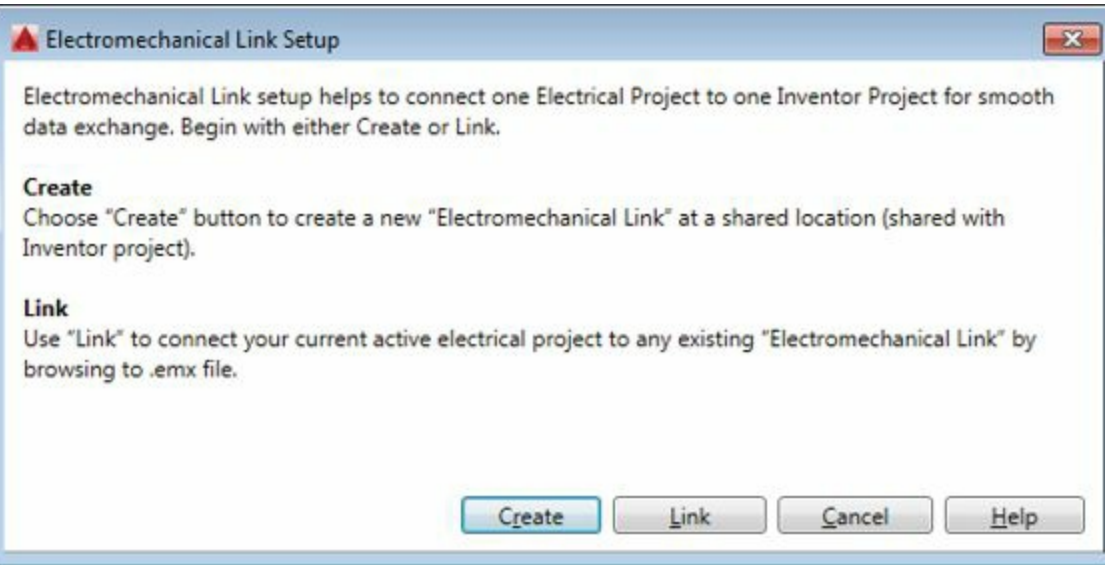

Figure-3. Electromechanical Link Setup dialog box
- Click on the **Electromechanical Link Setup** tool from the **Ribbon**. The **Electromechanical Link Setup** dialog box will be displayed; refer to Figure-3.